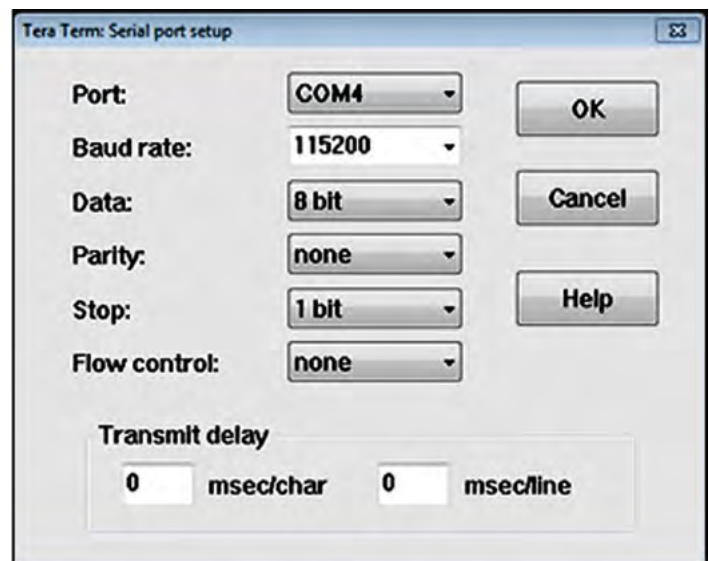

Figure 76: Configure the com port
6. On the *Tera Term* terminal window click on the *setup* menu and select *serial port* to configure the COM port, as shown in *Figure 76* below. Then, click OK